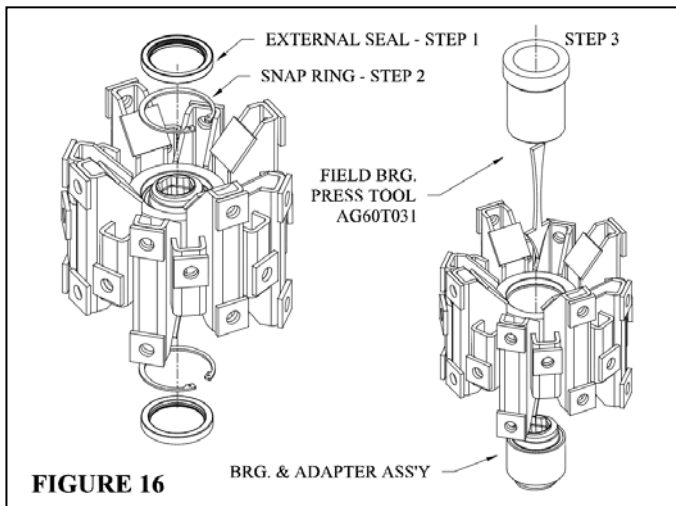

FIGURE 16
1. Puncture and pry out the external seals from both sides (Fig. 16).